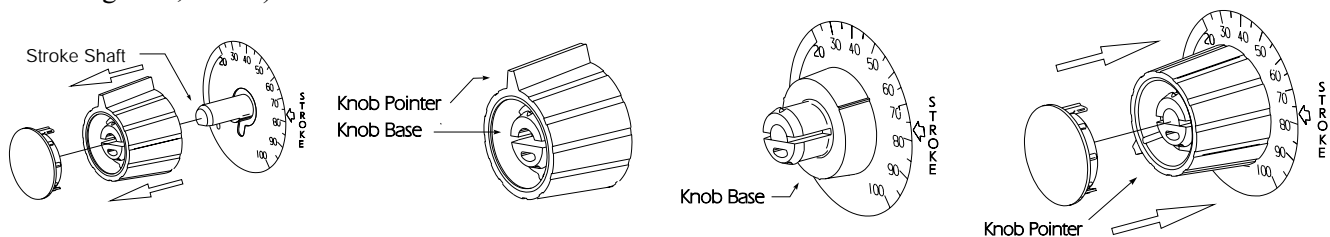

Figure 5
- A. **Very low stroke setting** - Check position of stroke length knob (lower knob) by rotating it counter-clockwise until Liquifram™ (diaphragm) stops moving with the pump operating. The Liquifram™ should not stop reciprocating (moving or clicking) until the knob points to zero. If it stops before zero, reset knob by grasping the knob and pulling it towards you. Pry the yellow cap off of the knob. Place the knob on a flat surface. Using needle nose pliers, squeeze the inner section together while lifting the outer section up (see Figure 5, below).
- B. **Incorrect knob settings**—Check stroke length knob (lower knob) by rotating it counter-clockwise  to zero position. The Liquifram™ (pumping diaphragm) should stop reciprocating. If it does not, reset knob and continue counter-clockwise rotation until motion stops. Reset knob by grasping the knob and pulling it towards you. Pry the yellow cap off of the knob. Place the knob on a flat surface. Using needle nose pliers, squeeze the inner section together while lifting the outer section up (see Figure 5). Push the inner section back onto the "D" shaped stroke shaft. With the pump running, zero the pump by turning the inner section of the knob counter-clockwise . Position the outer section of the knob so that the pointer aligns with zero (0) on the nameplate. Push down on the outer section of the knob (a snap sound will indicate that parts are locked together). Replace the yellow cap over the outer section of the knob, aligning the tabs on the cap with the slots on the knob.